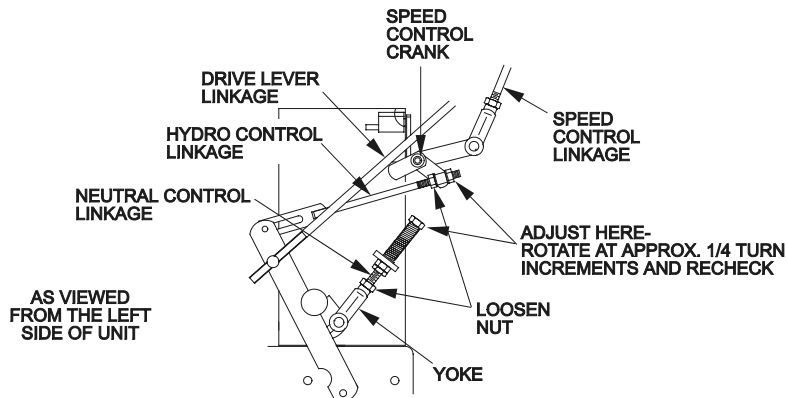

FIGURE 19
2. Move the speed control lever (located on the console) to the full forward position and check the orientation of the tabs on the ends of the speed control crank (Figure 19). These tabs should be pointing straight down at the 6 o'clock position or slightly forward. Adjust the threaded yoke at the bottom of the speed control linkage (See Figure 19) until the tabs are positioned correctly.
4. Loosen the nut against the neutral control linkage yoke as shown in Figure 19.
2. Loosen the front nut on **left** hydro control linkage as shown in Figure 19. Turn the rear control linkage adjusting nut counter-clockwise until wheel rotates forward. Turn the rear nut of left control linkage clockwise 1/4 of a turn at a time, stopping to move the speed control forward and back to neutral, until left wheel stops rotating forward.